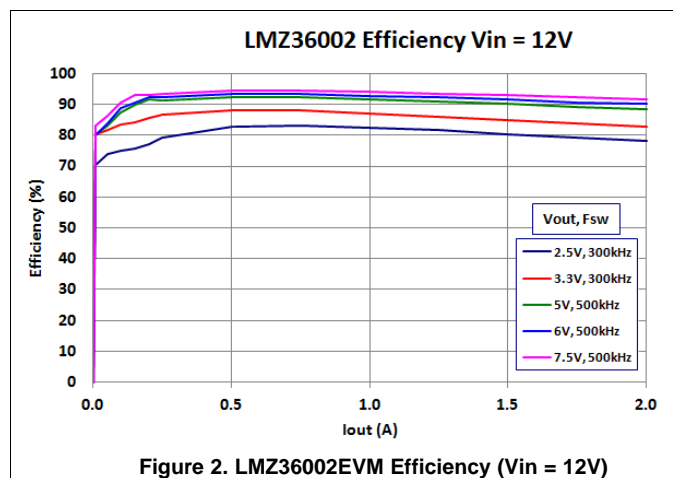
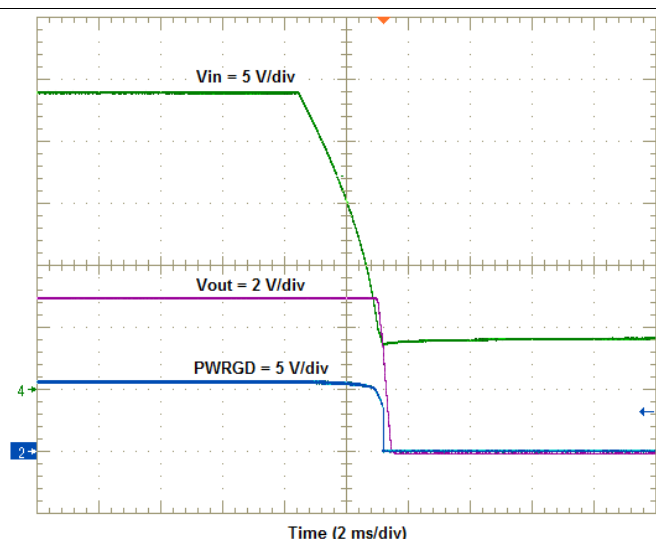

Figure 2. LMZ36002EVM Efficiency (Vin = 12V)
Figure 7. LMZ36002EVM Shut-down Waveforms
**Figure 2** through **Figure 7** demonstrate the LMZ36002EVM performance. For more data regarding the LMZ36002 please see the product data sheet.